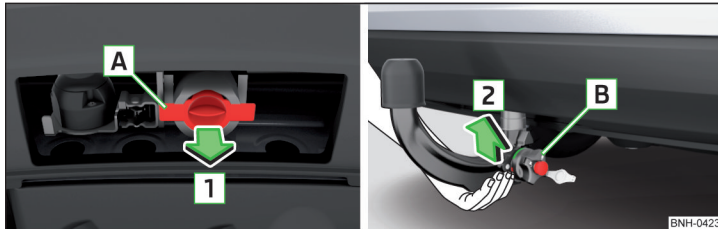

Fig. 107 Remove cap for receiving shaft / use ball bar
- Remove the end cap for receiving shaft **A** in the direction of arrow **1** » Fig. 107.
- Grip the tow bar **from underneath** » Fig. 107 and insert into the mounting recess in arrow direction **2** until you hear it click into place » **!**.
- > Fit the cover for the mounting recess **A** in the opposite direction to arrow **1** » Fig. 107 on page 118.